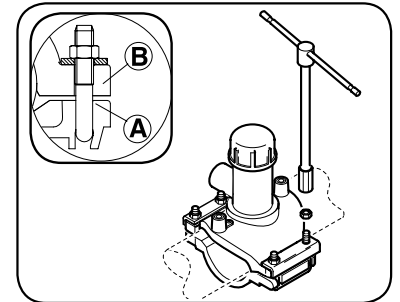

FIG.2
- 5 Fasten the tapping tee on the pipe using the **FOUR BOLT RIGID PLASTIC UNDERCLAMP**: use a wrench to tighten the four nuts, until top and bottom part A and B come into tight contact (see fig.2).